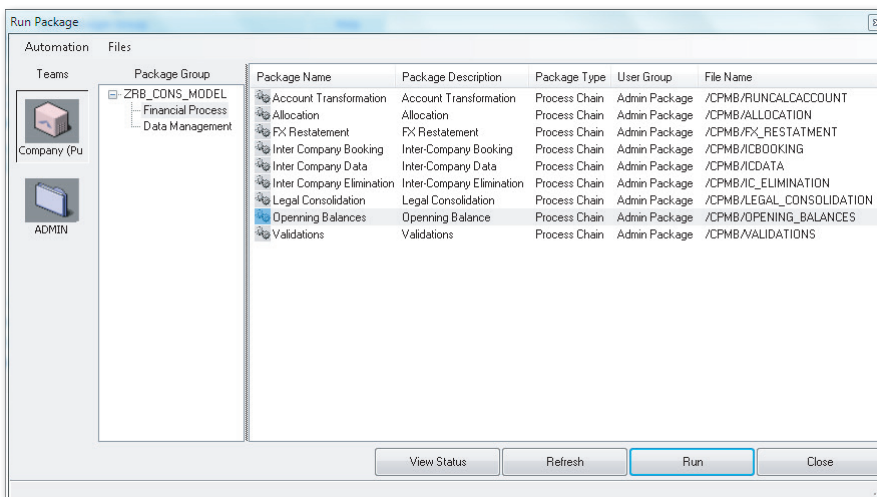

Figure 9.7 Configuring Carry Forward Balance Business Rule—Part G
7. Create the Data Manager package for executing a carry forward balance (if one does not already exist). The process chain associated with the carry forward balance is /CPMB/OPENING_BALANCES. Run the data package to execute the carry forward balance script, as shown in Figure 9.7.